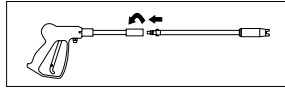

Figure 3 - Gun/Lance Connection
1. Insert lance into the gun and turn clockwise to positive stop as shown in Figure 3.